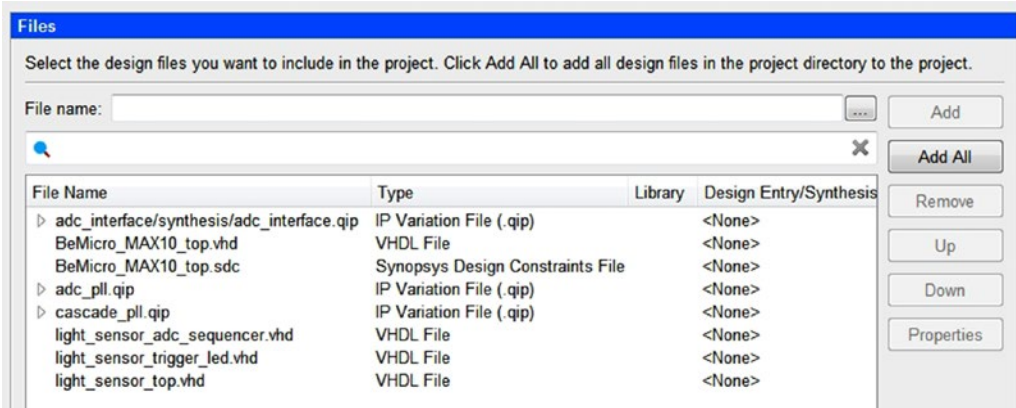

Figure 12-37. File list for the light sensor—tripwire design
Step 3: After you have added the `adc_pll.qip` and `cascade_pll.qip` files, Figure 12-37 shows all the files in the correct order. You can use the Up or Down button to move the file order up or down. Please follow this file order, as it is very important for simulation. The top-level design file (`light_sensor_top.vhd`) must be the last one.